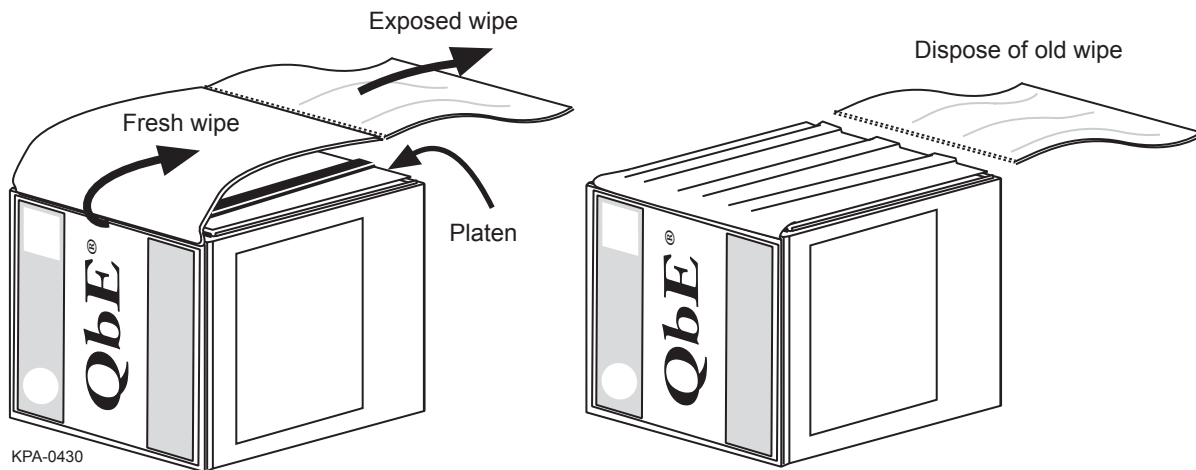

Figure 56
**Step 1:** Clean the connectors with the Optical Access Connector Cleaning Kit before mating. Pull one length of fresh QbE™ wipe out of the box and fold it over the fiber-safe foam platen - tear off the old wipe at its perforations (Figure 56).